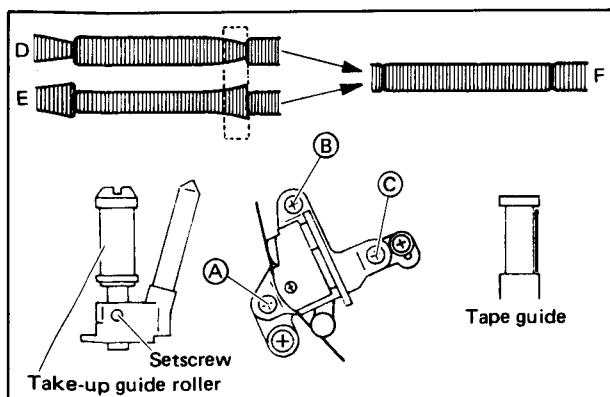

Fig. 4-48 Drum output adjustment
6. In the same manner as for the drum input, turn the take-up guide roller to adjust the falling portion (drum output portion) of the FM waveform. Incorrect examples are shown by D and E in Fig. 4-48, while F indicates the correct adjustment.